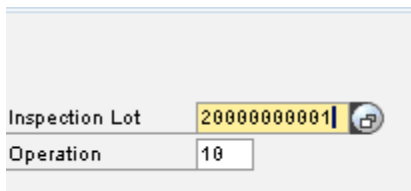

Fig. 8
- 7.4. Enter the Inspection Lot number in the "Inspection Lot" text box, from step 5.8.1 (Fig. 8)
- 7.5. Verify that 10 is displayed in the "Operation" text box (Fig. 8)